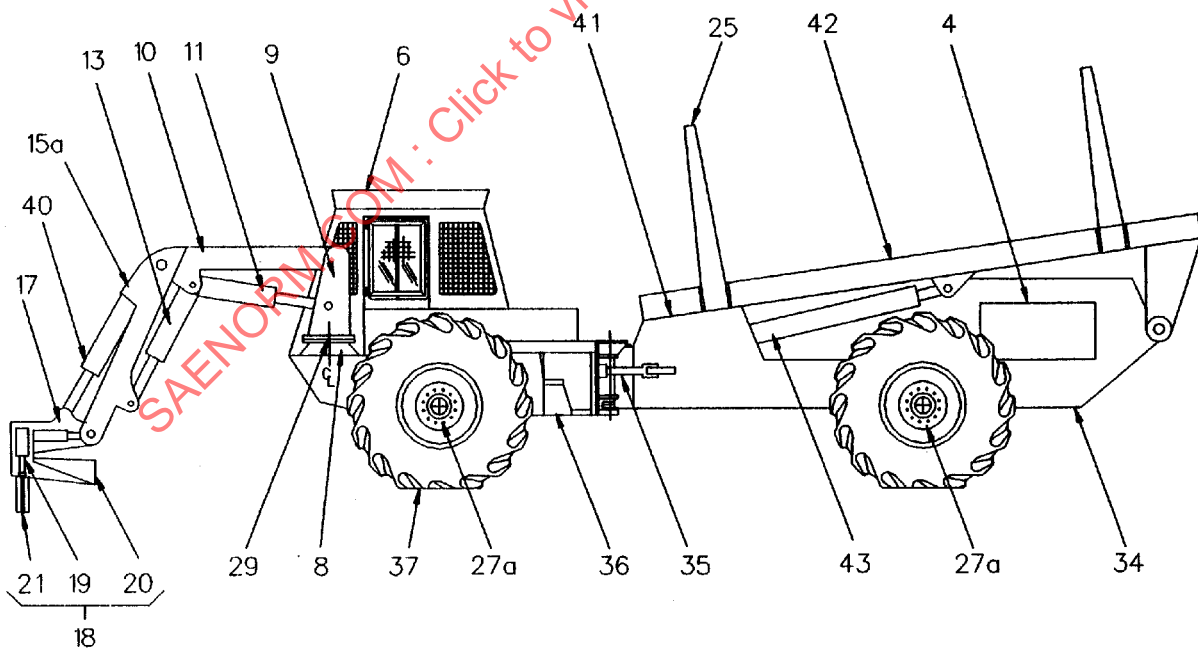

FIGURE 2—WHOLE TREE/TOTAL TREE/TREE LENGTH
3.1.2 **WHOLE TREE/TOTAL TREE/TREE LENGTH (FIGURE 2)**—This machine usually employs a pivoting bunk designed to handle whole tree, total tree, or tree lengths such that the whole load can be dumped at one time.